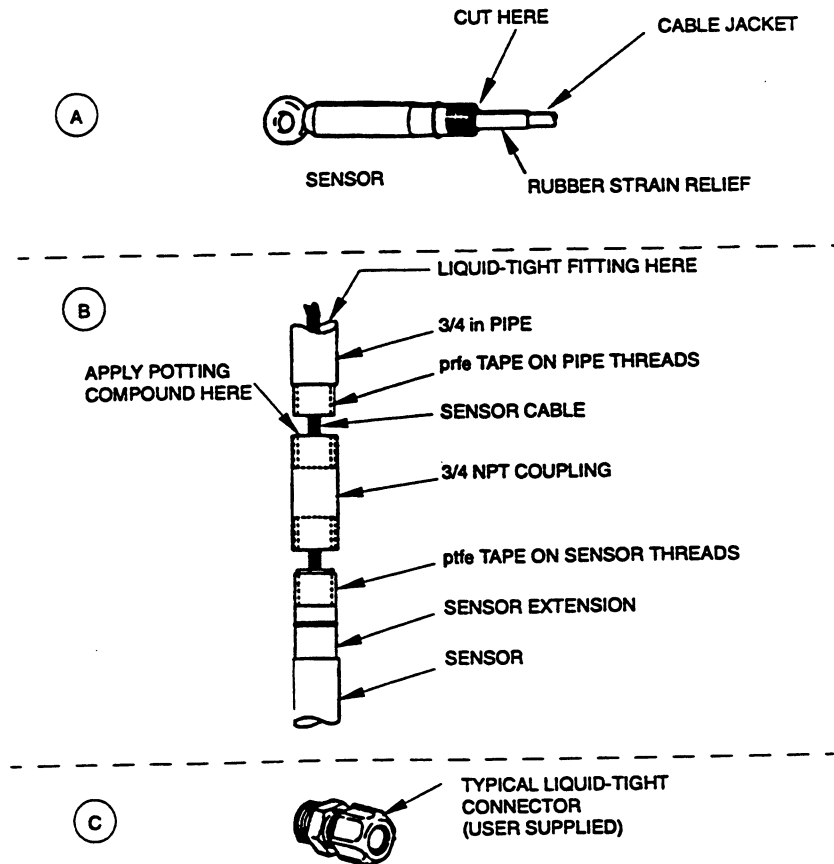

Figure 12. Typical In-Situ Installation
1. Cut (as close to the end of the sensor as possible) and remove the rubber strain relief. See Figure 12(a).
2. Wrap several thicknesses of ptfе tape on the sensor threads. See Figure 12(b).
8. Install liquid-tight connector (user supplied) into the top of the pipe. See Figure 12(c).